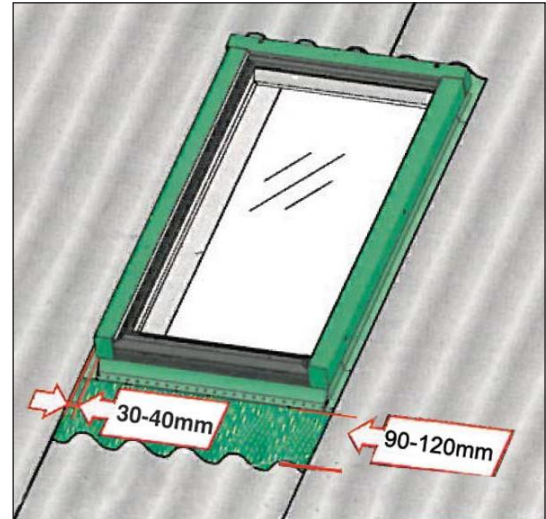

Fig 17
- 23) The bottom mat is designed to partially lay under the side sheets of iron. If possible allow sheets to run down the side of skylight, down, over and past the mat. Finish placing sheets around skylight (Fig 17).